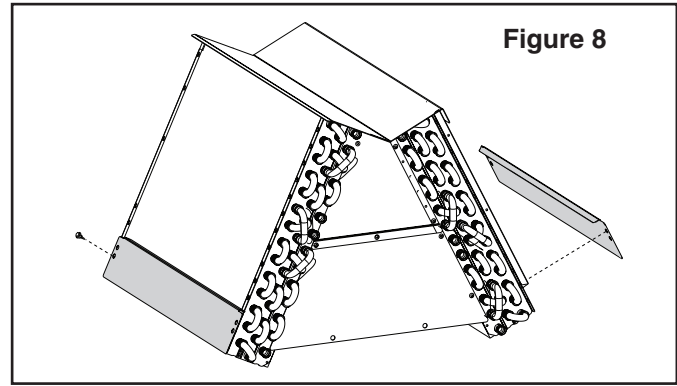

Figure 8
- For the horizontal left configurations, the (2) outer water diverter baffles must be removed for maximum efficiency.
- Remove the (2) outer water diverter baffles by removing the 5/16" hex head screws. See Figure 8